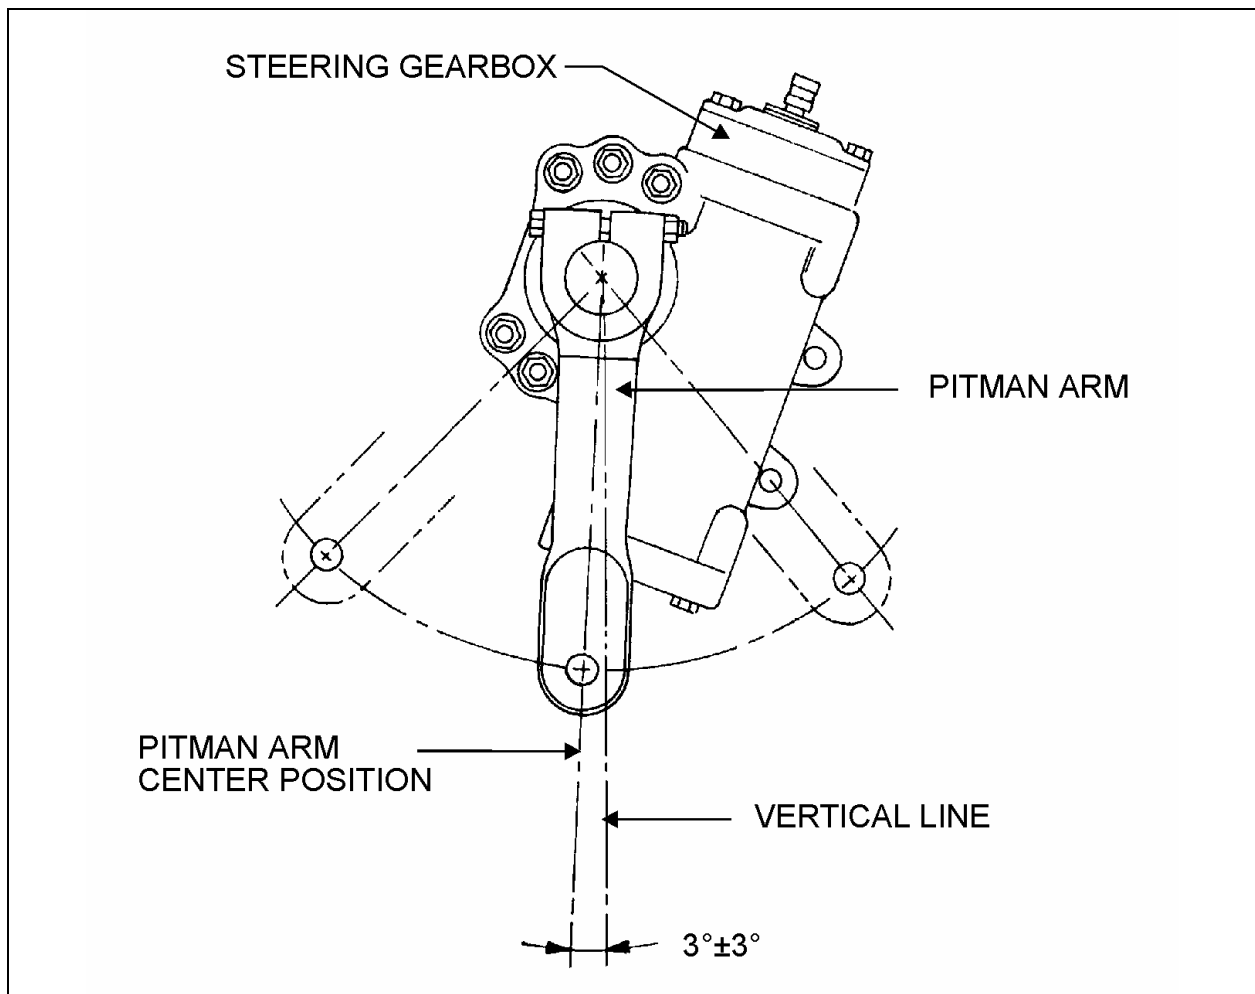

FIGURE 1: PITMAN ARM ADJUSTMENT
2. Using a protractor, check the angle of the pitman arm (refer to Fig. 1 for details).